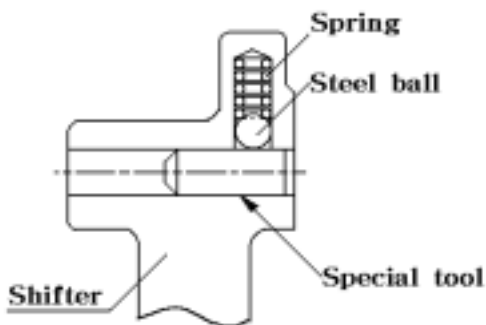

Fig.5-56
(3) Reassembly
c. When installing the shifter on the shifter stay, Use the special tool as shown in Fig.5-56